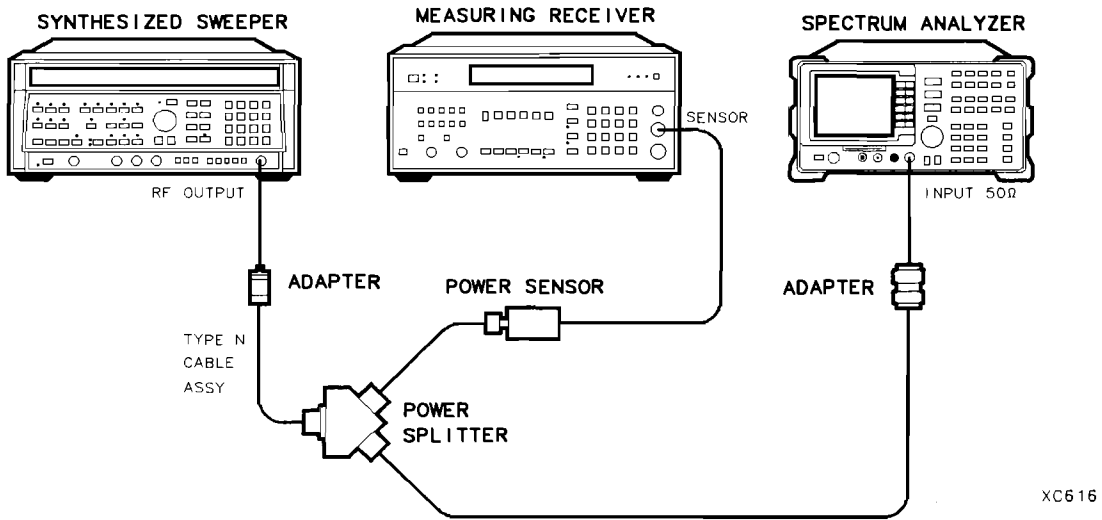

Figure 2-27. Frequency Response Test Setup, ≥ 50 MHz
2. Connect the equipment as shown in Figure 2-27.